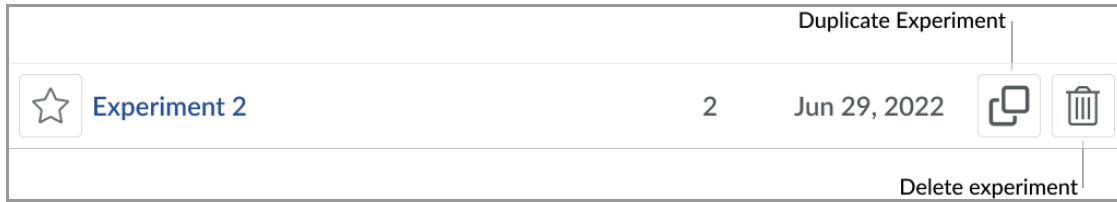

Figure 26. Duplicate or Delete Experiment
2. The Experiments List displays [Duplicate] and [Delete] icons for each item, next to the “Last Run” date (Figure 26).